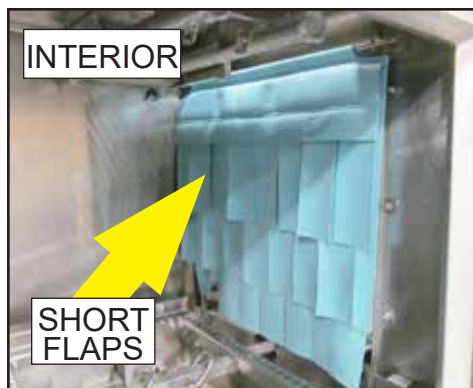

Fig. 86 -
- 1 Curtain rods hang on built-in hooks. Hang one long curtain at the entrance of the front feed section and another long curtain at the exit end of the front feed section, Fig. 86.